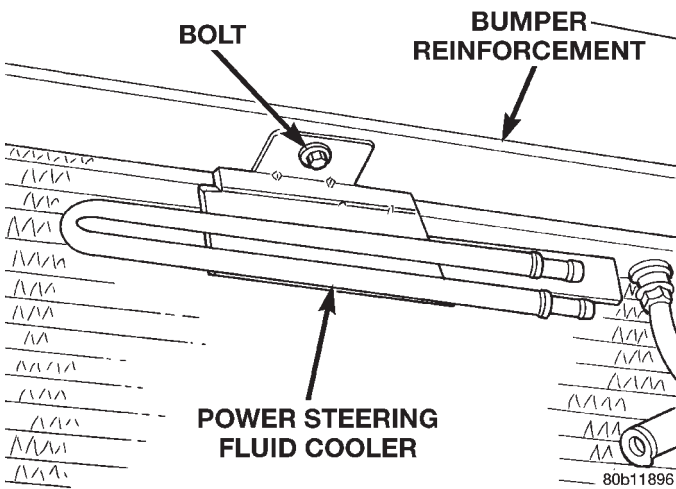

Fig. 24 Power Steering Fluid Cooler Attachment
(4) Remove bolt (Fig. 24) attaching the power steering fluid cooler to the bumper reinforcement (Fig. 24).
- (1) Install the power steering fluid cooler on the bumper reinforcement as shown in (Fig. 24).
- (2) Install bolt (Fig. 24) attaching the power steering fluid cooler to the bumper reinforcement. Tighten the attaching bolt to a torque of 7 N·m (60 in. lbs.).